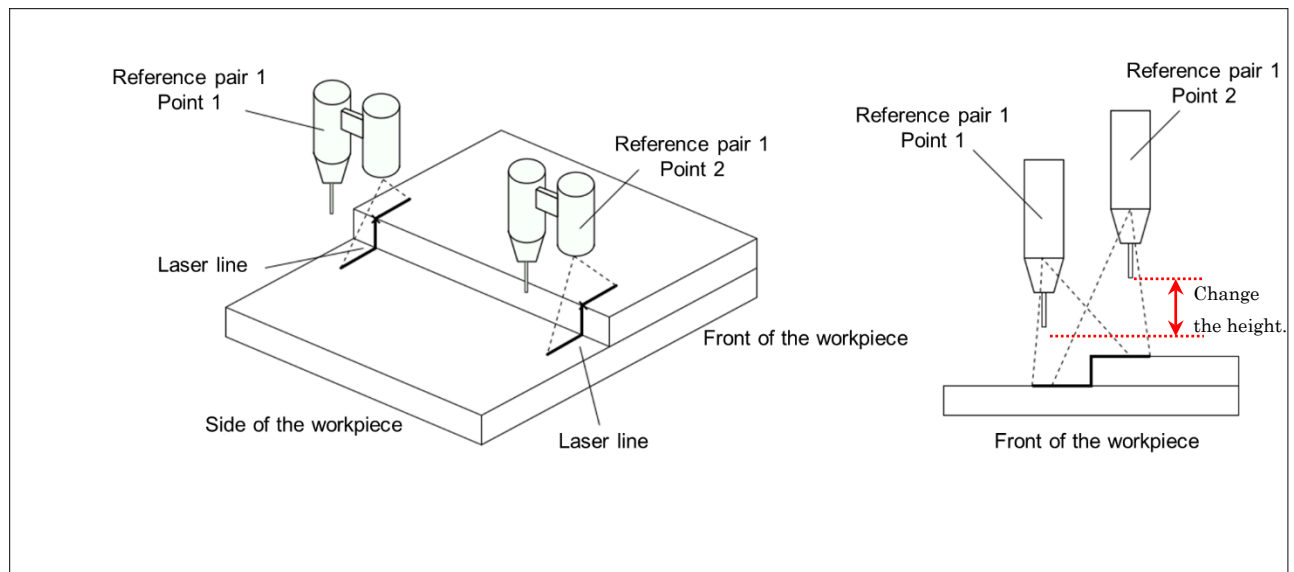

Fig. 8.3.3.5 (c) Method of teaching reference pair 1
- 4 As shown in Fig. 8.3.3.5 (c), move TCP to reference point 1 by the jog operation of the robot.